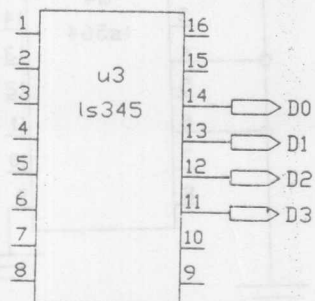

Figure 3.6: Offsheet Tags
- Offsheet Tags See Figure 3.6